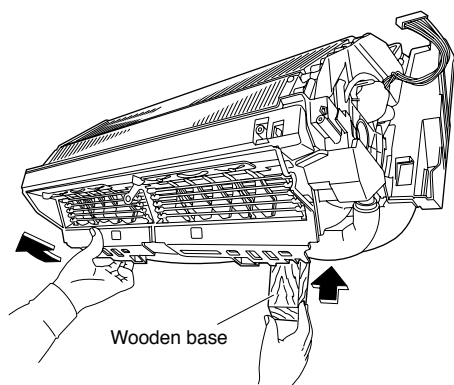

Fig. 34
- (1) Lift the indoor unit by a wooden base. (Fig.34)